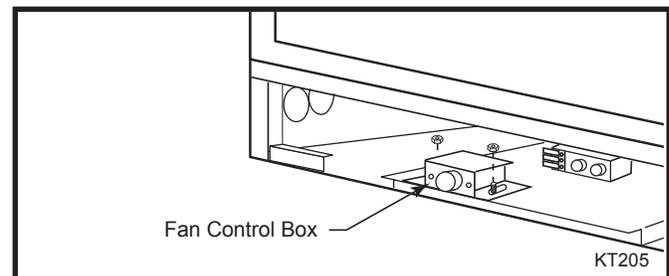

Fig. 62 Remove fan control box.
- Remove the Fan Speed Control Box. (Fig. 62)